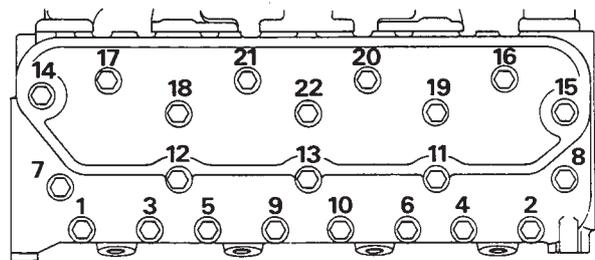

Fig.1 Cylinder head bolt slackening sequence
15. *Progressively slacken and then remove the cylinder head bolts in the sequence shown in fig.1. Note that different length bolts are used:*
- 7 longer bolts - numbered 14, 7, 12, 13, 11, 8 and 15 in fig.1.